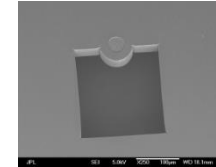
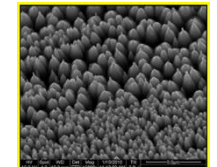

Figure 5. LOWFS mask
Figure 6. Black Si Microstructure
- LOWFS masks (Fig 5) incorporating a black silicon region (Fig 6) as well as shaped aperture through a silicon wafer